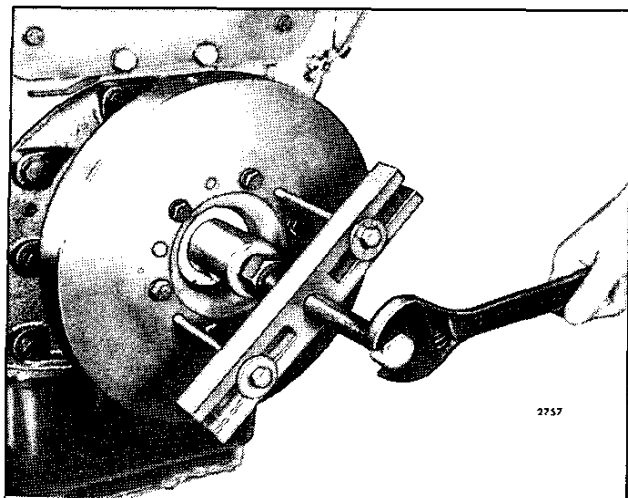

Fig. 2 – Removing Vibration Damper Outer Cone
4. Attach puller J 24420 to the vibration damper hub, as shown in Fig. 2, with two long bolts threaded into the two 3/8"-24 tapped holes provided in the hub. Pull the damper and hub assembly, together with the outer cone, until the outer cone is loose on the crankshaft.